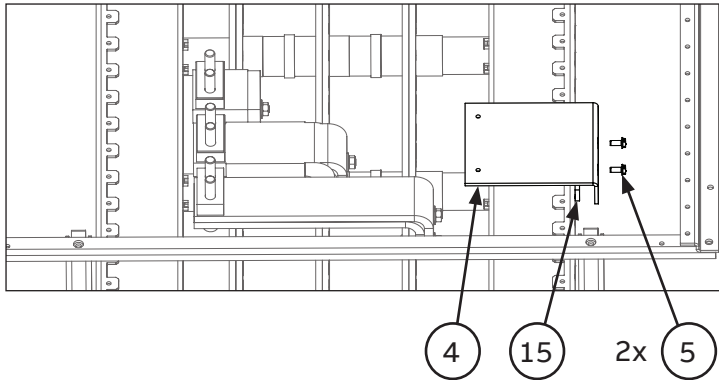

Figure 5b. Installation of mounting bracket Right side cable entry
For right side cable entry add spacer (15) with mounting bracket as shown in figure 5b.